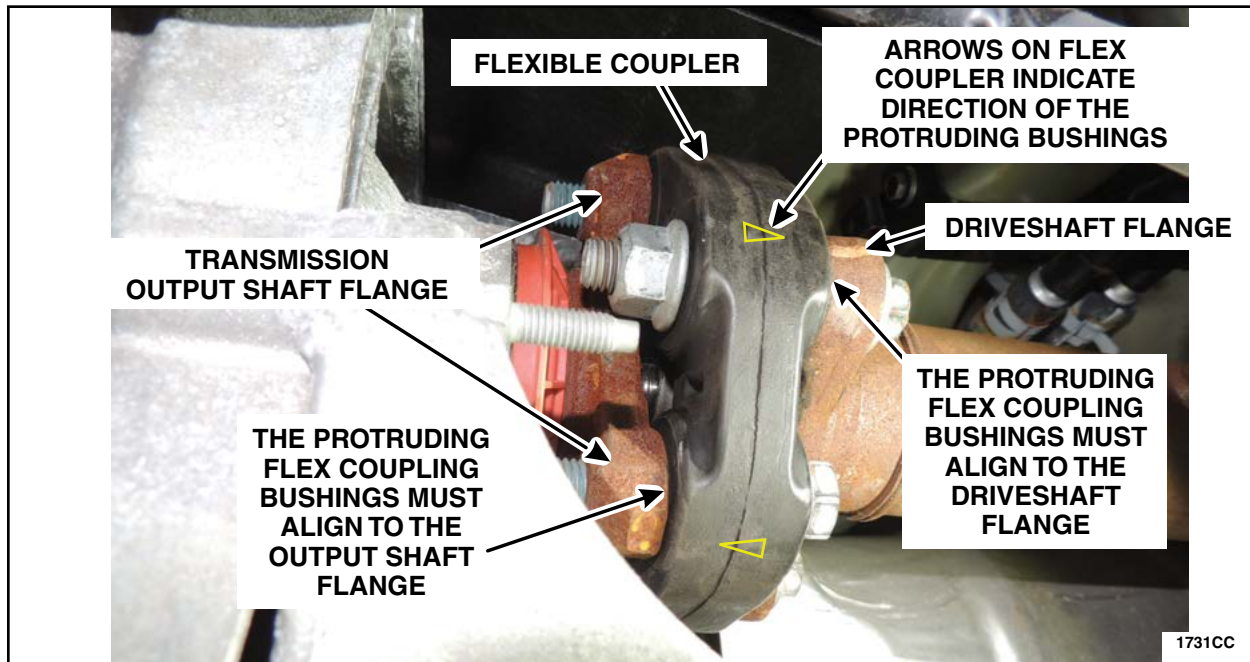

FIGURE 12
10. Reinstall the driveshaft with the appropriate center bearing shim according to the chart in Figure 13. Please follow the Driveshaft Removal and Installation Workshop Manual (WSM) procedure in Section 205-01. See Figures 12, 13 and 14.
NOTICE: The flex coupler must be installed with the blue paint mark facing the transmission output flange. The protruding flex coupler bushings must align with the driveshaft flange and transmission output flange. Arrows should point at the ears of each flange shown in Figure 12.